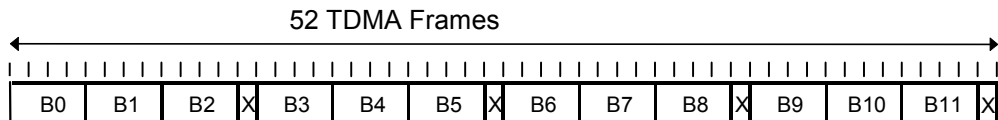

Fig. 4-60 52-multiframe for PDCH
The CMU provides a GPRS or EGPRS signal with a 52-multiframe structure as shown in Fig. 4-60 below. Each 52-multiframe contains 12 blocks of 4 consecutive frames (B0 to B12), 2 idle frames (X) and 2 frames used for the Packet Timing Advance Control Channel (X). All blocks in the signal are coded and modulated with the same coding and puncturing scheme.